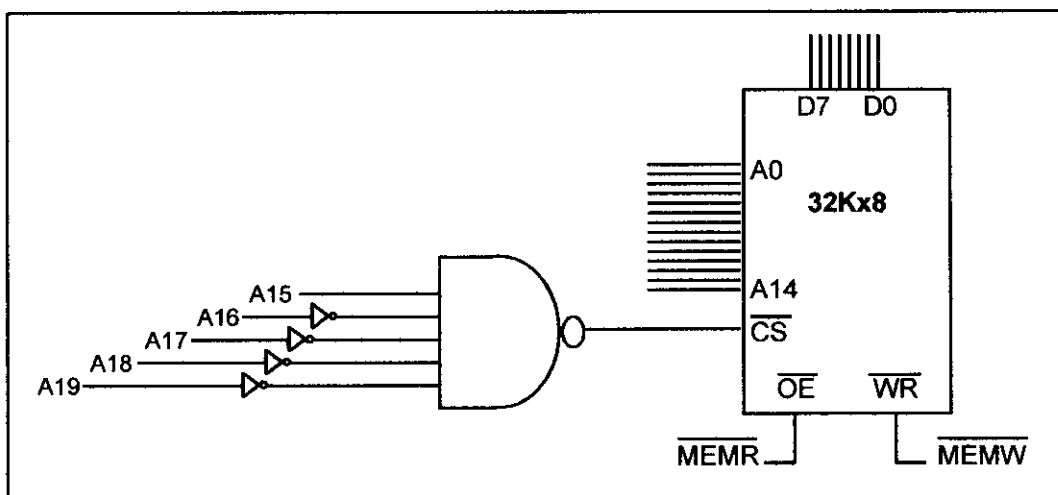
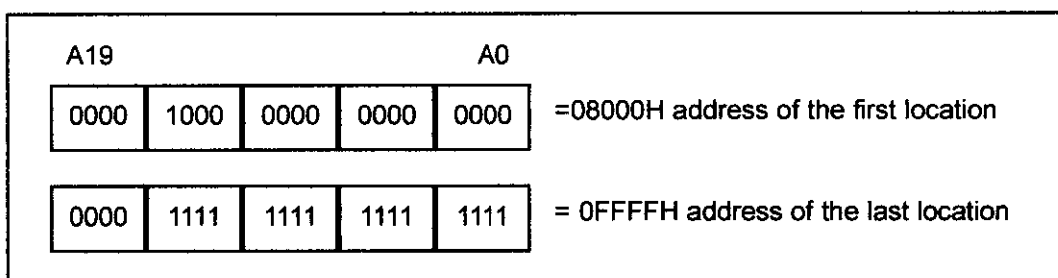
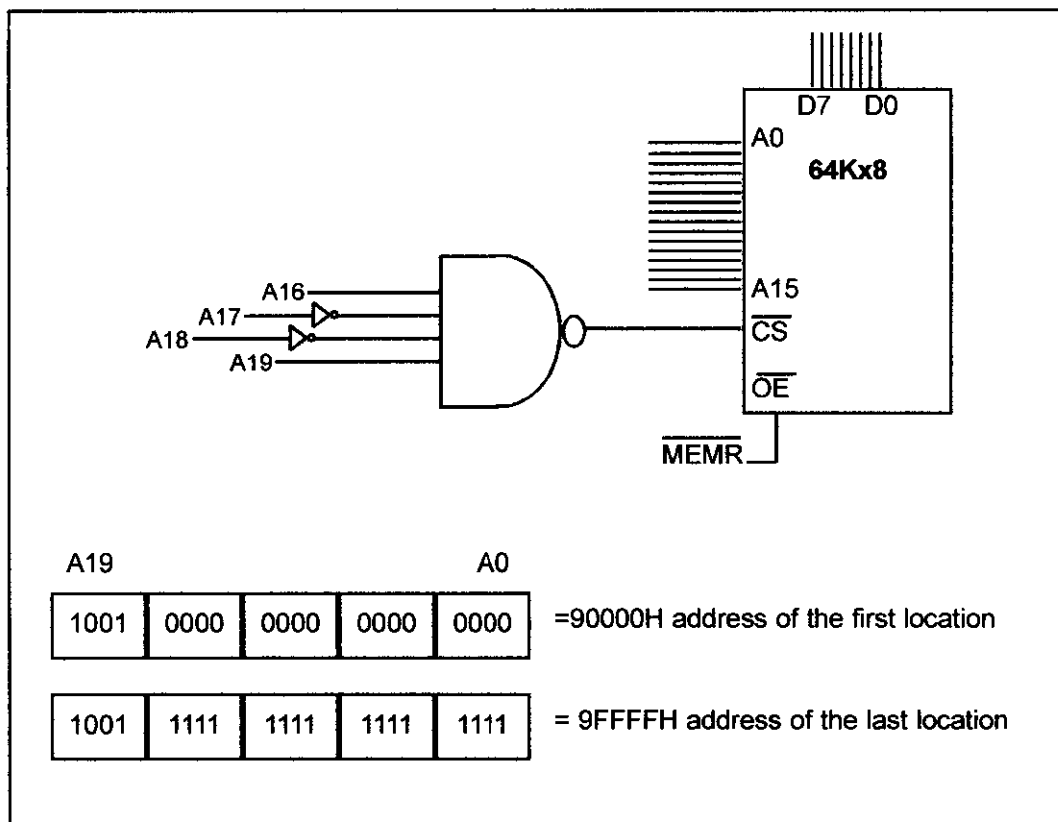

Figure 10-8. Using Simple Logic Gate as Decoder
Figure 10-9. Address Range Assigned to Memory Chip in Figure 10-8
Figure 10-10. Decoder and Its Associated Address Range
Referring to Figure 10-10 we see that the memory chip has 64K bytes of space. Show the calculation that verifies that address range 90000 to 9FFFFH is comprised of 64K bytes.
As seen in the last section, memory chips have one or more CS (chip select) pins that must be activated for the memory's contents to be accessed. Sometimes the chip select is also referred to as chip enable (CE). In connecting a memory chip to the CPU, the data bus is connected directly to the data pins of the memory. Control signals MEMR and MEMW are connected to the OE and WR pins of the memory chip, respectively (see Figure 10-8). In the case of the address buses, while the lower bits of the address go directly to the memory chip address pins, the upper ones are used to activate the CS pin of the memory chip. It is the CS pin along with RD/WR that allows the flow of data in or out of the memory chip. In other words, no data can be written into or read from the memory chip unless CS is activated. The CS input is active low and can be activated using some simple logic gates, such as NAND and inverters. See Figures 10-8 and 10-10. Figure 10-9 shows the address range for the design in Figure 10-8.
In Figure 10-10, notice that the output of the NAND gate is active low and that the CS pin is also active low. That makes them a perfect match. Also notice that A19 - A16 must be = 1001 in order for CS to be activated. This results in the assignment of addresses 9000H to 9FFFFH to this memory block. Figures 10-8 and 10-10 show that for every block of memory, we need a NAND gate. The 74LS138 has 8 NAND gates in it; therefore, a single chip can control 8 blocks of memory. This was the method of memory addressing decoding used before the introduction of CPLD, and it is still the best method if you do not have access to CPLD.